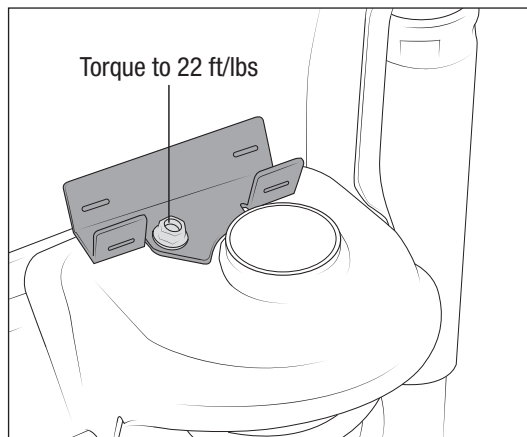

Figure 19
13. If you are installing Remote Reservoir Shocks install the reservoir bracket at this time (Fig. 19).